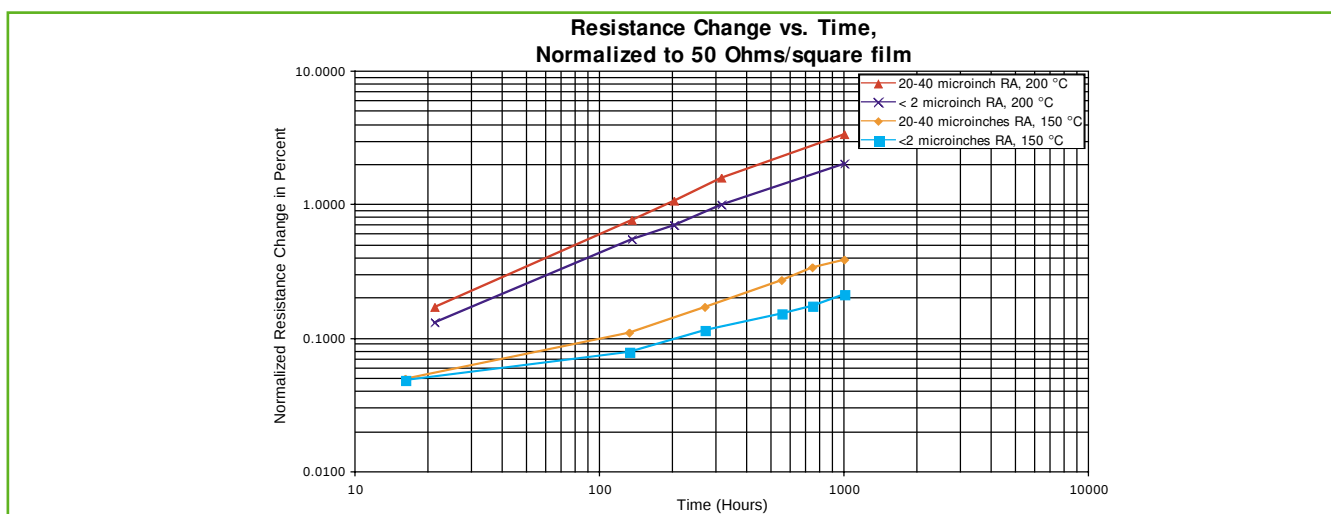

Figure 5: Normalized percent resistance change of TaN oven-aged resistors
Figure 5 shows the average measured change in resistance of four groups of ten each Ta₂N thin-film resistors placed in an oven -- no applied power to the resistors -- and aged for 1000 hours. The latter number of hours appears to be a de facto industry specification, although the governing military spec, MIL-PRF-55342 calls out 2000 hours. Measurements were made at two different temperatures and were repeated on AIN supplied by different vendors (not shown), and on substrates from the same vendor but having different average surface roughnesses. In general, resistance change during aging, $\Delta R/R$ when expressed as a percentage of initial resistance, followed the formula predicted by theory,¹
scaled by the ratio of actual film resistivity, 72 ohms/square, to 50 ohms/square using equation (1). Since the substrate used had an average surface roughness of 20-40 microinches, the lower curve should be comparable to the 200 °C oven-aged result for this substrate shown in Figure 5. The results are indeed close; oven aging (1000 hours, 200 °C) produced a 3.4% change, AC power aging (907 hours, 190 °C peak) produced a 3.4% change. This good agreement, however, is somewhat misleading: In addition to the slightly different test times, there are uncertainties connected with the production resistors that make the exact comparison less accurate: (1) Their area-average temperatures were less than the peak temperatures; (2) their exact surface roughness had a range of 20 microinches; and 3) their widths were laser trimmed by amounts ranging from 0 – 20%.